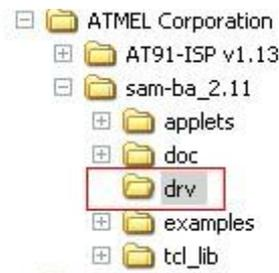

Figure 5-2
(1) Install Atmel ISP download software SAM-BA (2.11 or later, CD-ROM location: 03-Tools/SAM-BA/) Note: If install SAM-BA 2.10 and earlier versions, it needs to first uninstall the all (**SAM-BA and USB driver**). If need two or more SAM-BA version coexistence, different SAM-BA versions use different USB interface.
(2) Power on and connect board (J17) to PC by micro USB cable.
(3) Turn SW1, SW2 down, disconnect backplane jumper JP8, and then press NRST button reset board (the order is not reversed). Firstly connect, PC prompts to install driver, then can select the location to install SAM-BA installation directory, Refer to figure 5-2: